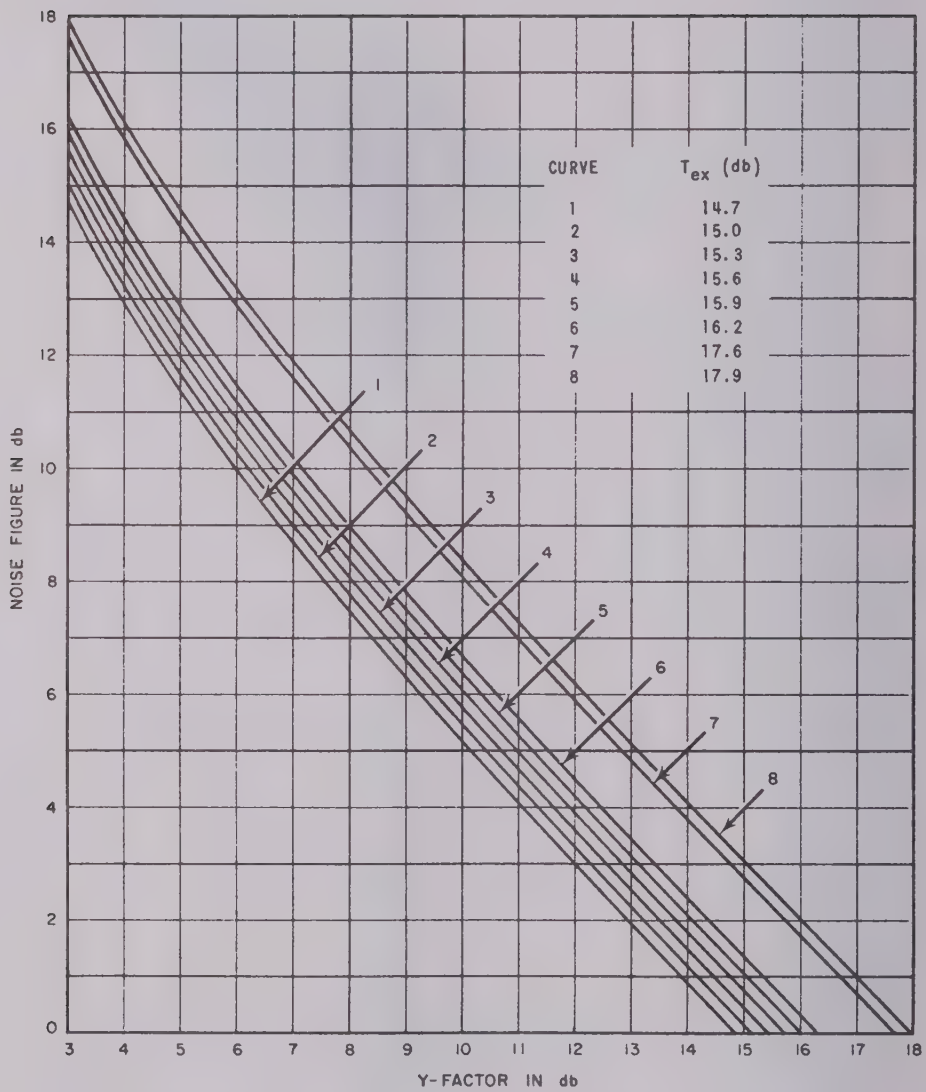

FIGURE 4-11. NOISE FIGURE VS Y-FACTOR FOR VARIOUS DISCHARGE NOISE GENERATORS
- d. Refer to Figure 4-11. Using the T_{ex} curve closest to that given in the noise-generator handbook, read the device noise figure corresponding to the measured Y-factor.